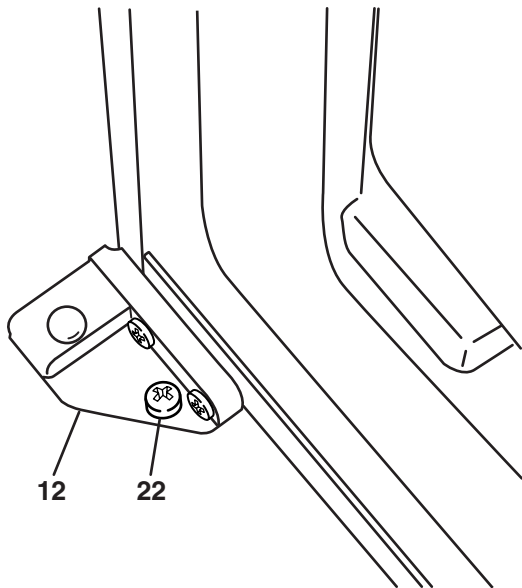

Figure 20
7. Attach appliance to the floor of the kitchen cabinet by threading screws (Fig. 20, 22) through bottom brackets (Fig. 20, 12).